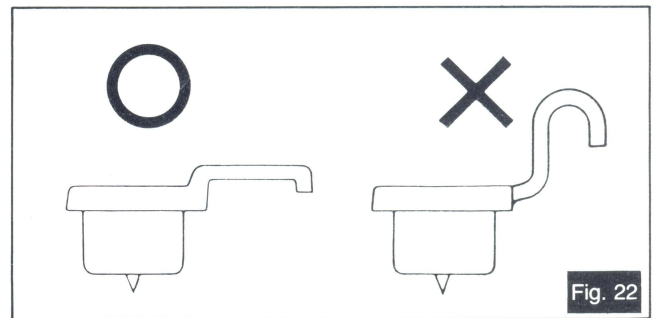

Fig. 22
- 4 When using other headshells, make sure that the headshell configuration is compatible. (See Fig. 22.)